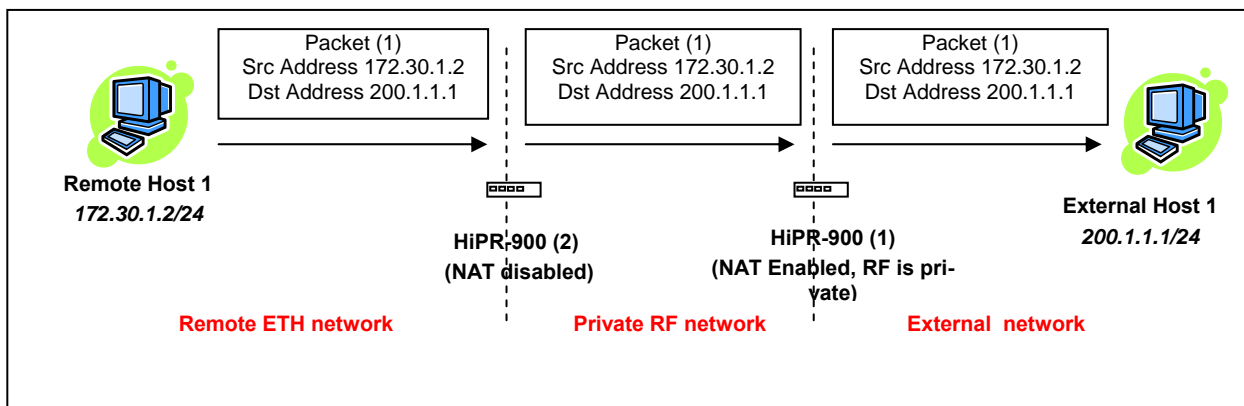

Figure 51 - Private to Public
Notice that in this example, the source address of the packet comes from the Remote network and not the RF network, thus the HiPR-900 (2) unit does not do any source IP address translation on it (Figure 51). In the previous example, the HiPR-900 (1) unit was changing the source IP address of the packet, making the HiPR-900 (2) unit believe that the packet was originating from the RF network.